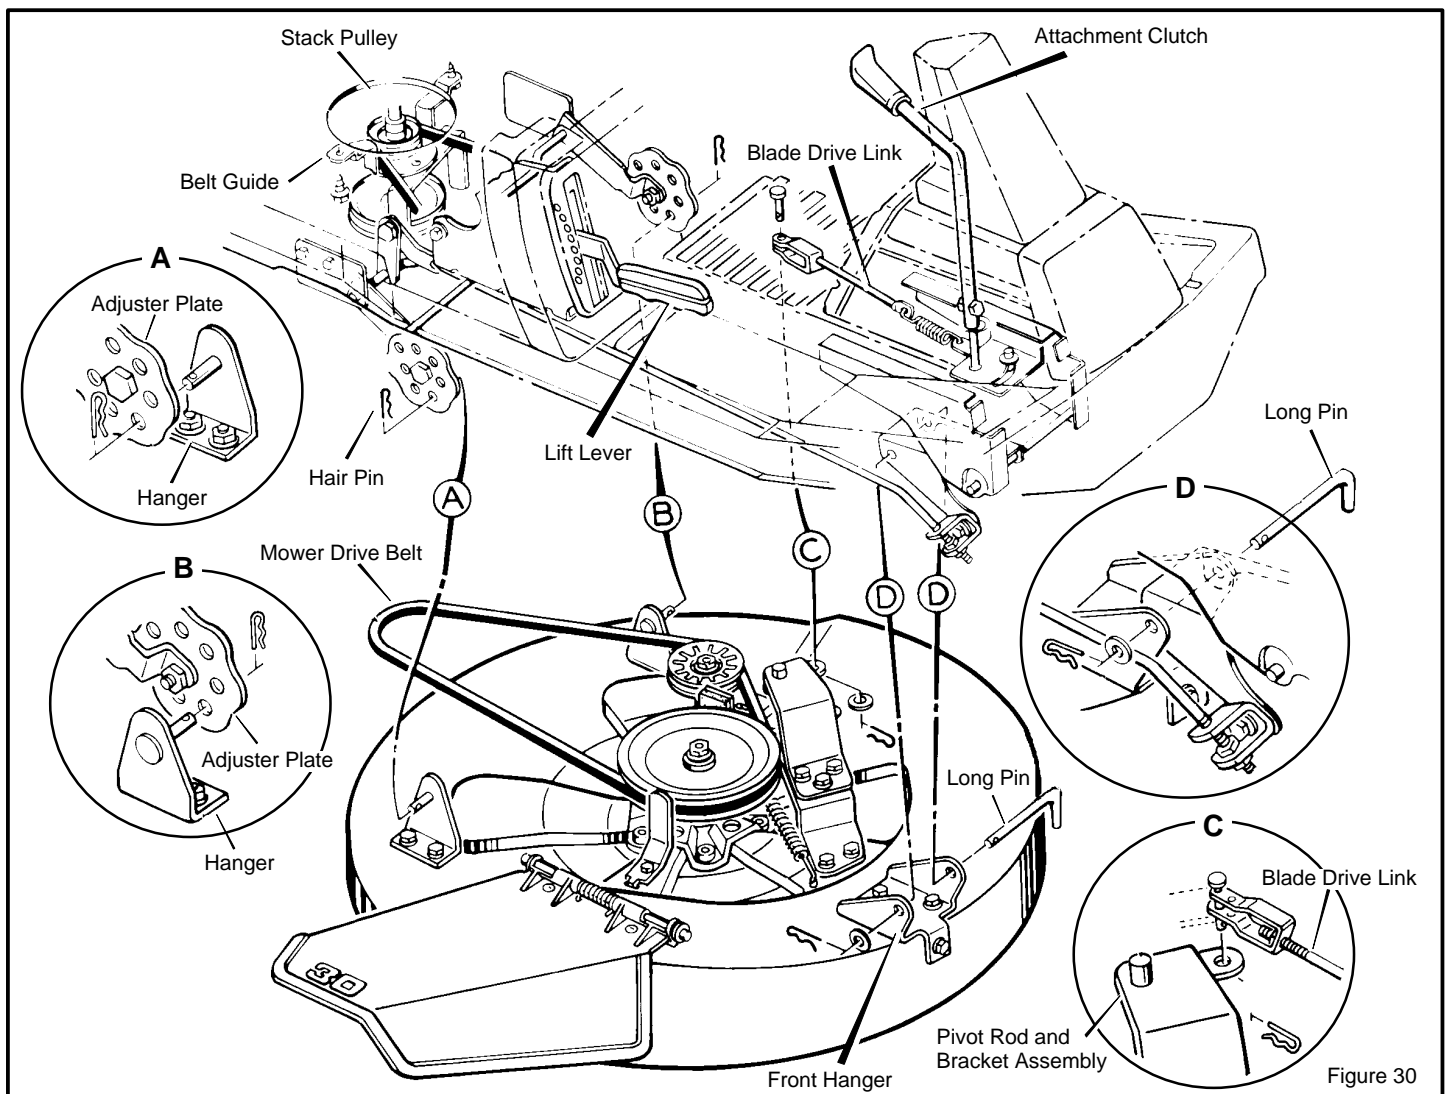

Figure 30
2. Move the **attachment clutch** to the DISENGAGE position (Figure 30).